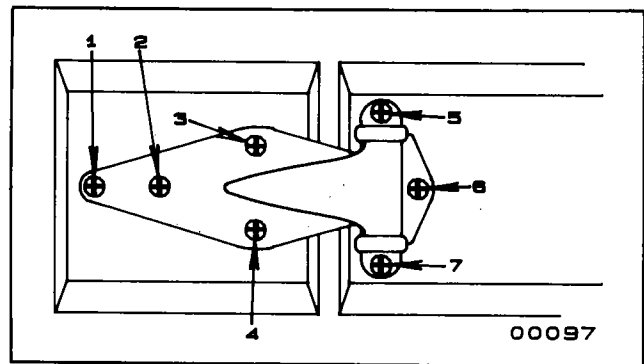

Figure 40. Hinge Screw and Pin Identification
- Align holes #3, #4, #5, & #6 of the new hinge with the existing holes in the camper door and body and reinstall the fasteners securely, (figure 40).